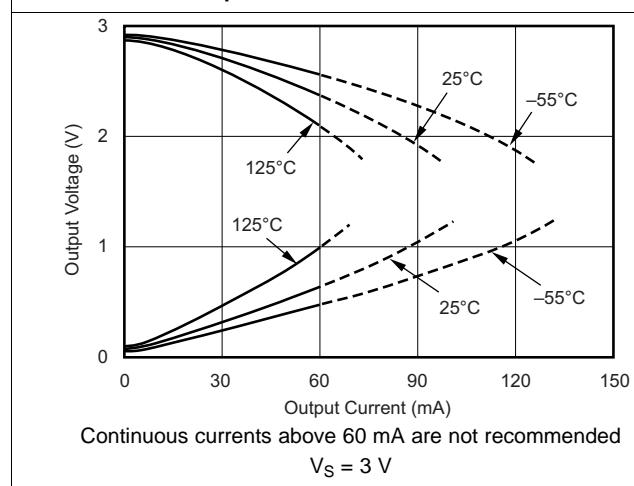
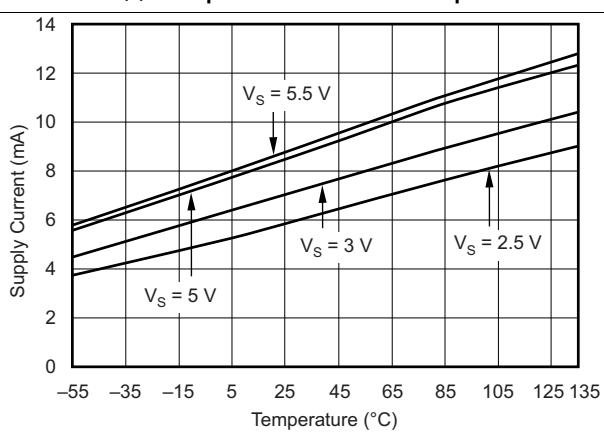
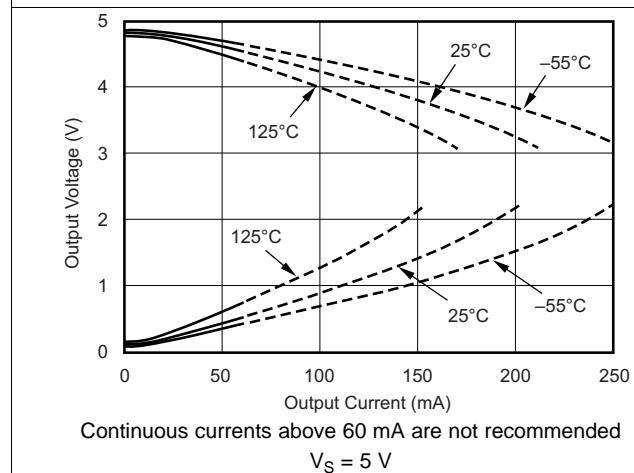

图 21. Output Voltage Swing vs Output Current
图 22. Supply Current vs Temperature
图 23. Output Voltage Swing vs Output Current
(1) See the *Output Voltage Swing vs Output Current* (图 21 and 图 23) in the *Typical Characteristics* section.
(2) Logic LOW and HIGH levels are CMOS logic compatible. They are referenced to  $V_-$ .
Running a continuous DC current in excess of  $\pm 60$  mA is not recommended. See the *Output Voltage Swing vs Output Current* graphs (图 21 and 图 22) in the Typical Characteristics section.